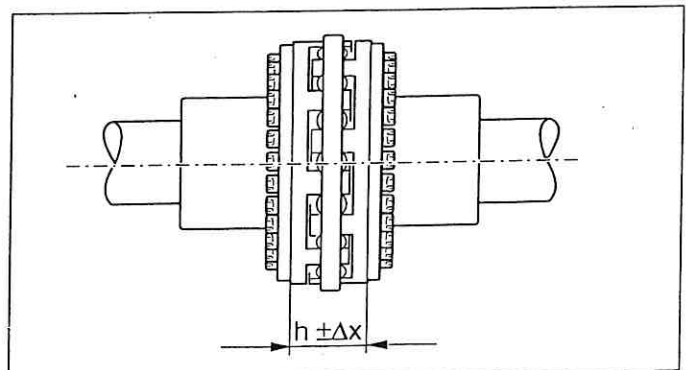

Fig. 7
- Measure the axial flange spacing  $h$  (Fig. 7).